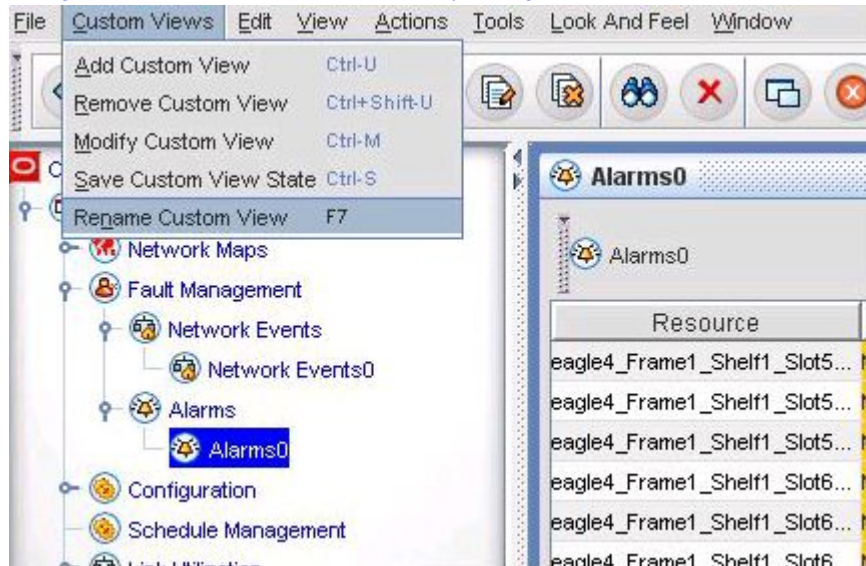

Figure 130: Rename a Custom View By Using Menu Bar
- From the **Custom Views** menu in the top menu bar, choose **Rename Custom View** as shown in Figure 130: Rename a Custom View By Using Menu Bar.